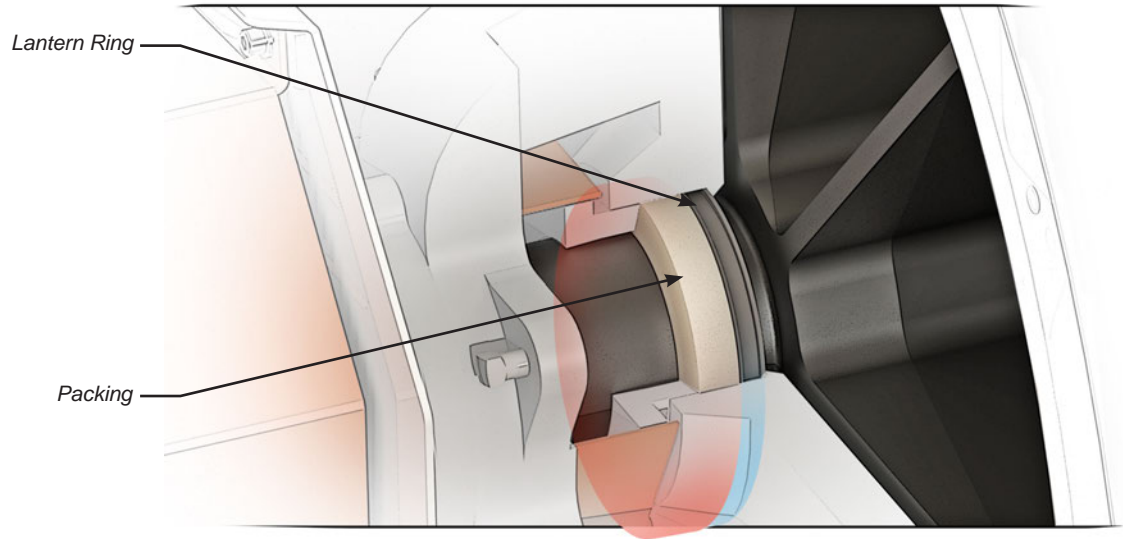

FIGURE 15
16. Insert new lantern ring into packing gland with the chamfered edge facing the rotor (Figure 15). A stamped “R” may additionally be found on the rotor facing side of the lantern ring.